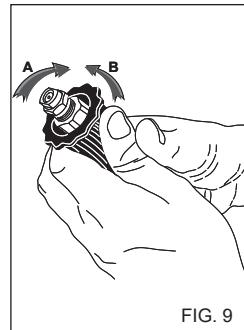

FIG. 9
### USING THE ADJUSTABLE HEAD (Fig. 9)
- 2) Start the cleaner, activate the detergent suction control on the lance (fig. 9) and spray the surface to be washed, working from the bottom upwards.